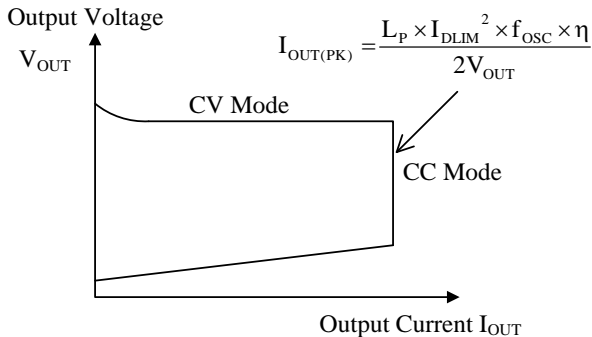

Figure 10-9 CV/CC characteristics
The IC operates in Constant Current (CC) Control when output current reaches to constant load and the state continues for more than the Constant Current Control Delay Time,  $t_{CCD} = 90$  ms. In case the IC is in discontinuous operation, the CV/CC characteristic is as shown in Figure 10-9.